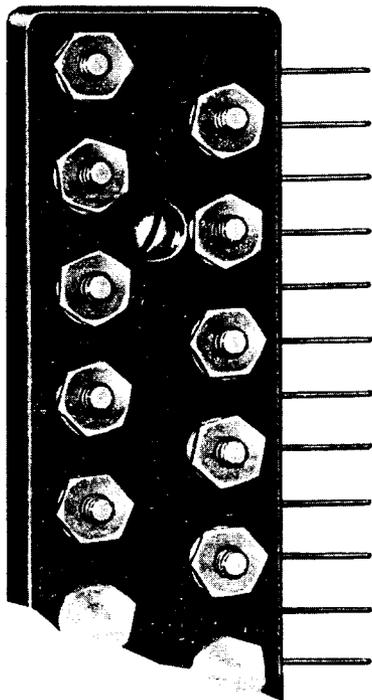

Fig. 2—31-Type Connecting Block—Partial View
2.03 *31-Type Connecting Block:* The 31-type connecting block is similar to the 30-type block in appearance. The initial conductor is terminated on solder-type lugs projecting from the side of the block (Fig. 2).